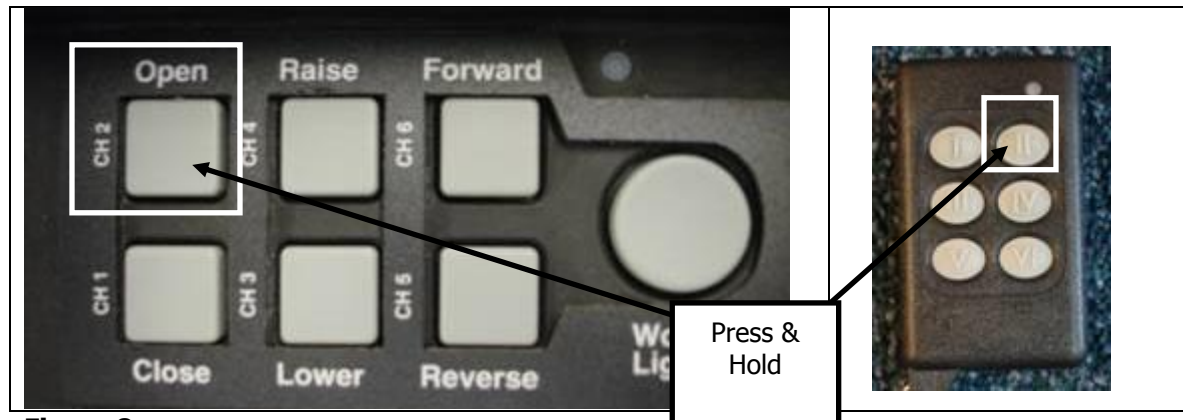
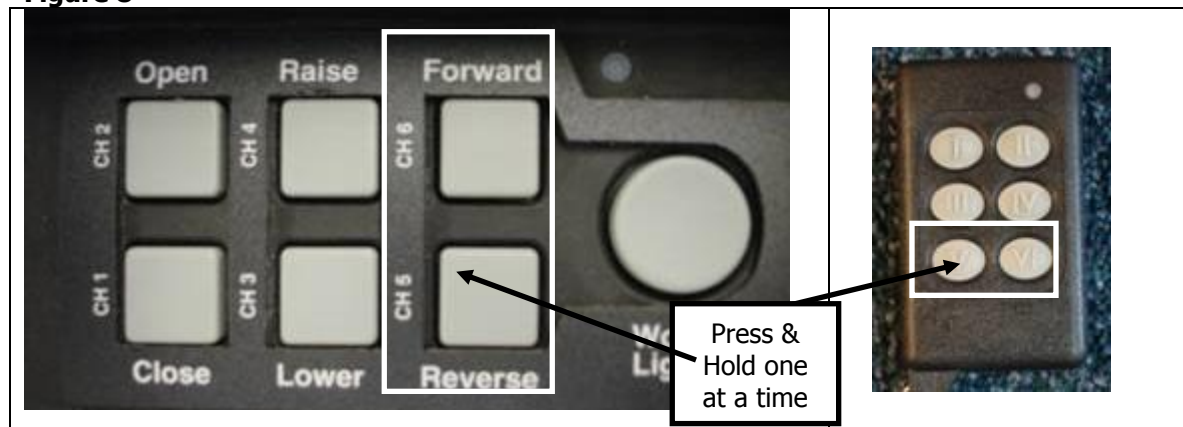

Figure 8
Figure 9
- 4) Wind the tarp in far enough to clear the container as it is dumped or unloaded. To wind the tarp press & hold button 2 on your control box or key fob (see Fig. 8). On non remote control systems there will be a switch to operate you tarp in and out. If you have sliding pivots you may wish to adjust these also to give more container clearance. Buttons 5 & 6 on your control box or key fob will operate your sliding pivots for and aft (see Fig. 9).